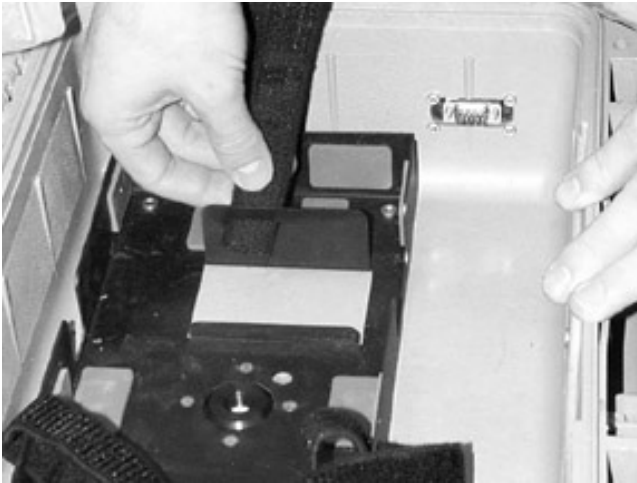

Figure B-11: Slip Velcro Strap Through Slot.
- Slip the free end of the Velcro strap through the slot on the battery pack portion of the main bracket (See Figure B-11).